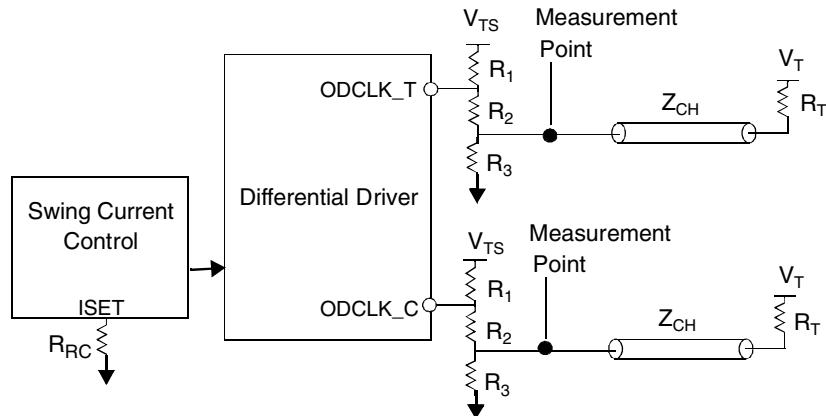

Figure 2. Example System Clock Driver Equivalent Circuit
- 1 When using singled-ended clock input, VTH is supplied to CLK_INTC as shown in Figure 2.
Figure 2 shows the clock driver equivalent circuit. The differential driver produces a specified voltage swing on the channel by switching the currents going into ODCLK_T and ODCLK_C. The external resistor R_{RC} at the IREFY pin sets the maximum current. The minimum current is zero.
The driver output characteristics are defined together with the external resistors, R_1 , R_2 , and R_3 . The output clock signals are specified at the measurement points indicated in Figure 2. Table 5 shows example values for the resistors.
- 1 A different set of resistors is used in Figure 2 when testing for maximum output current of the clock driver (I_{OLABS}). These resistors are: $R_1 = 34\Omega$, $R_2 = 31.8\Omega$, $R_3 = 48.7\Omega$, $R_T=28\Omega$, $R_{RC} = 147\Omega$
For a singled-ended clock input, an external voltage divider and a supply voltage, as shown in Figure 2, provide a reference voltage V_{TH} at the CLK_INC pin to determine the proper switching point for CLK_INT. The range of V_{TH} is specified in the **DC Characteristics – Inputs** table.